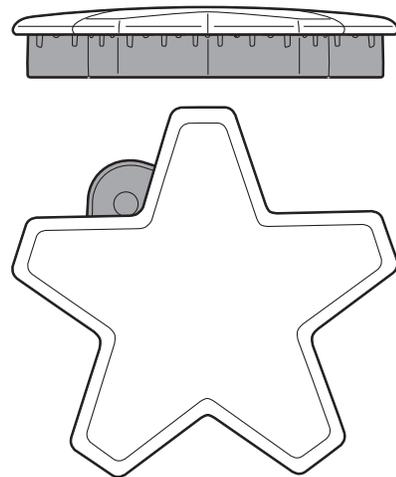
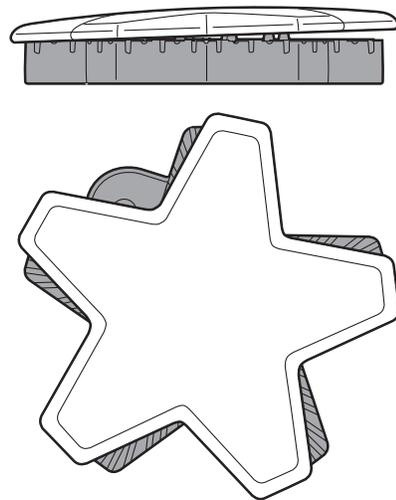

Figure 11: Correct Burner Cap Placement
Figure 12: Incorrect Burner Cap Placement
Each STAR® burner has its own electronic igniter that sparks when the burner is turned on. Each burner should light in 4 seconds or less. If a burner does not light, check to see that the burner cap is positioned correctly on the base (see Figure 11).
- Check each burner to make sure there is no gap between the burner cap and burner base. See Figure 11 and Figure 12 for examples of correct and incorrect placements of the burner cap.
- You may gently try to move the burner caps from side to side to check if the caps are properly placed on the burner bases. When properly placed, each burner cap will rest flat on top of its burner base, and completely cover the star-shape of the burner base when viewed from the top as shown in Figure 11.